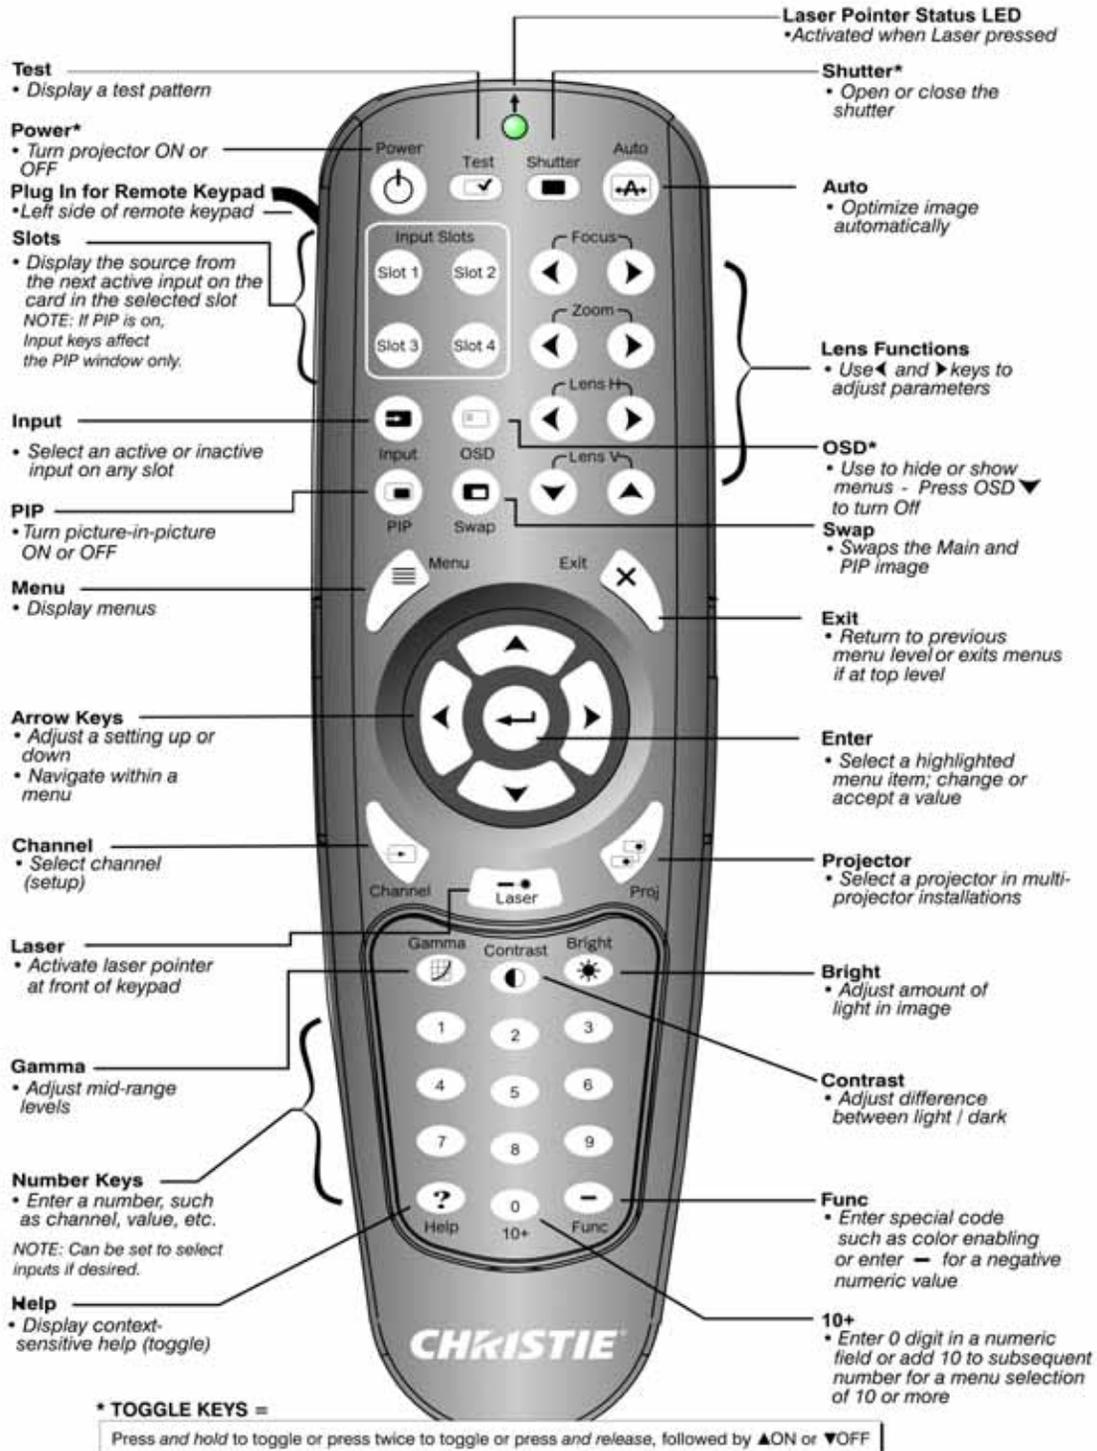

FIGURE 3-1 REMOTE KEYPAD
- **Remote Keypad:** For wired or wireless control up to 25 feet (8 m) away (includes cable for use as a wired remote). The remote keypad controls the projector by way of wireless communications from a battery-powered infrared (IR) transmitter. Use the remote keypad the same way you would use a remote keypad supplied with a TV or VCR. When pressing a function key, direct the keypad toward the projector's front or rear IR sensor. One of the two IR sensors on the projector will detect the signal and relay the commands for internal processing. A laser pointer is built into the remote keypad. See **Figure 3-1 Remote Keypad**.
- NOTE:** Use **POWER**, **SHUTTER**, and **OSD FUNCTIONS** by doing one of the following: “press-and-hold” (2 seconds) or press twice quickly, followed by pressing either the **UP ARROW KEY** to switch on or the **DOWN ARROW KEY** to switch off once. See **Figure 3-1 Remote Keypad**.
See **Figure 3-1 Remote Keypad** for the description of the keys provided for the remote keypad.
Specific keypad commands are explained in **Figure 3-1 Remote Keypad**.